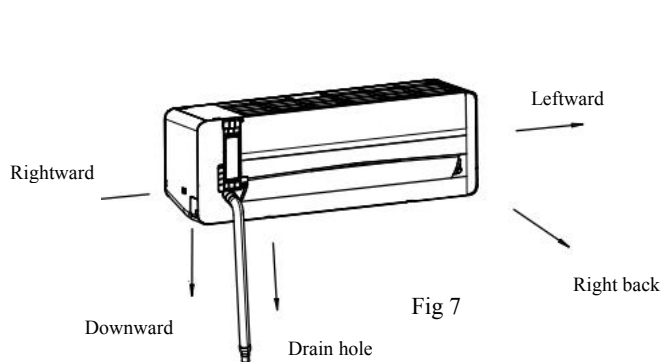

Fig 7
**Notes:**Left chart is available for the position of drain hose, refer to Fig 7.